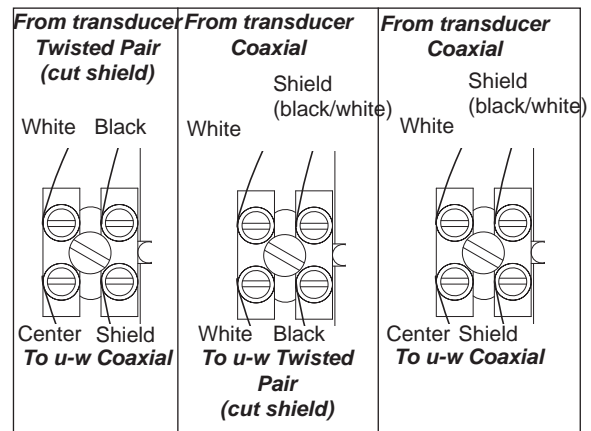

Figure 2-3. Junction Box Mounting and Wiring
1. See Figure 2-3. Hold the junction box at the desired location and mark the positions of the mounting holes. Place the junction box in a safe place.